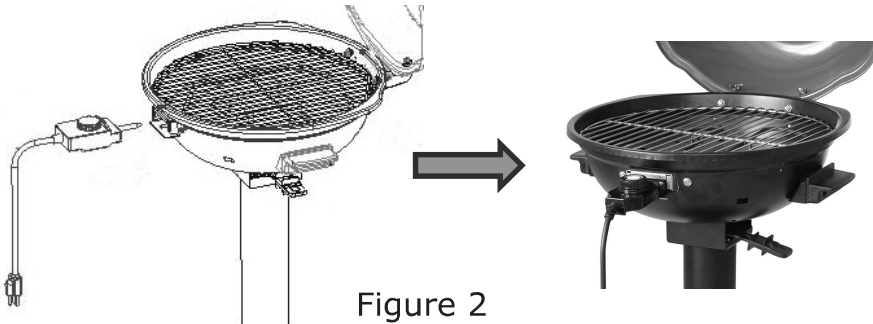

Figure 2
2. Plug the temperature controller fully into the heating element front mounting bracket. (Fig. 2,). With the temperature dial facing upwards, the controller probe (and power connection holes) should be inserted until the controller front wall is snug against the heating element front mounting bracket.